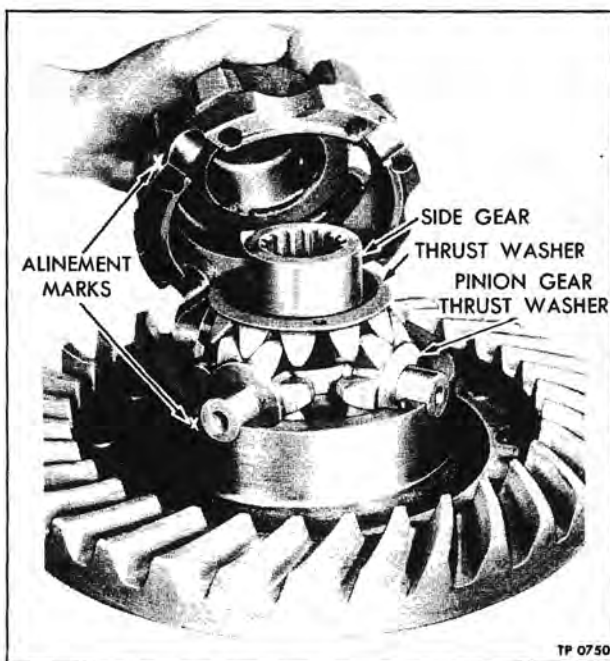

Figure 7—Differential Case Alignment Marks
1. Mark both halves of differential case (2) so halves may be reassembled in original positions (fig. 7).
2. Position side gear thrust washer (12) on hub of side gear (13), then place gear in flanged half of differential case (2).
3. Lay flanged half of case on bench with flange upward, place differential pinions (46) and pinion thrust washers (4) on differential spider (3), place pinion and spider assembly on side gear (13) previously installed, then install remaining side gear (13) and thrust washer (12).
shown in figure 7. Install case bolts (47) downward through both halves of case.
5. Install nuts (5) on four equally spaced bolts (47), and tighten to torque of 185-205 foot-pounds. Check assembly for free rotation. If rotation is free and smooth, install remaining bolts and nuts and tighten to recommended torque.
6. Position drive gear (1) on flanged half of differential case (2), with alignment marks, stamped on plain case and drive gear, opposite each other. Install and tighten bolts (15) to 290-320 foot-pounds torque. Install lock wire (14) through bolt heads in such a manner that lock wire will become tighter if bolts should become loose.
7. Press differential side bearings (43) on hubs of differential case (2), until bearing cones seat firmly.